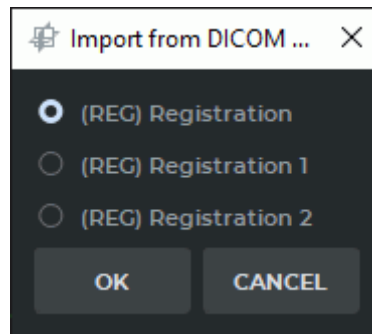

Figure 4.9: The dialog box «Import from DICOM Registration»
3. In the dialog box **Import from DICOM Registration** (Fig. 4.9) select a REG modality series to import. Click **OK** button to import series or **CANCEL** to cancel.